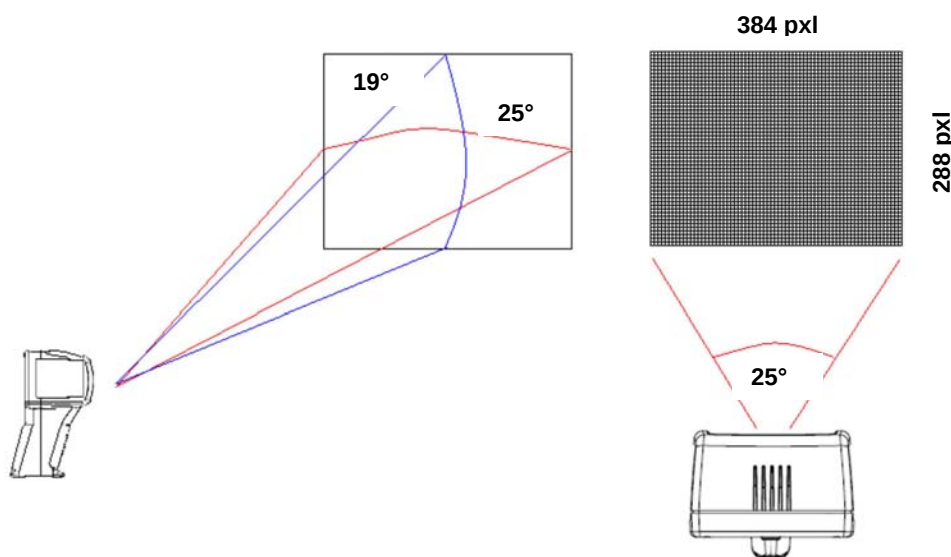

Fig. 71: Representation of the instruments field of view (FOV)
4. For accurate temperature measurements, make sure the surface of the measured object is always bigger than the surface measurable by the instrument, which is given by the instruments field of view (FOV). The instrument has a field of view of $25^\circ \times 19^\circ$ and a detection vector of 384×288 (110592) pixels (see Fig. 71).